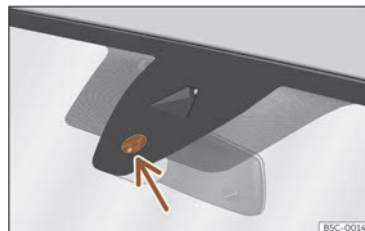

Fig. 105 Rain sensor sensitive surface
The possible causes of anomalies and erroneous interpretations in the sensitive surface area >>> Fig. 105 of the rain sensor are, among others:
- **Dirt:** dry dust, wax, coating on glass (Lotus effect) or traces of detergent (car wash) may reduce the effectiveness of the rain sensor or make it react more slowly, later or not at all. Regularly clean the sensitive surface of the rain sensor >>> Fig. 105 (arrow) and check for possible damage to the wiper blades.